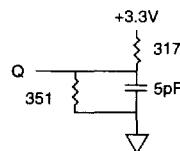

Fig. 2 OUTPUT LOAD EQUIVALENT
7. Output loading is specified with C_L = 5pF as in Fig. 2. Transition is measured ±500mV from steady state voltage.
11. The load used for V_{OH}, V_{OL} testing is shown in Fig. 2. AC load current is higher than the shown DC values.